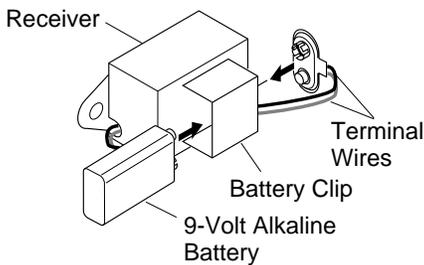

Figure 39 - Attaching Alkaline Battery to Receiver
3. Locate the battery clip mounted on the back of the receiver. Slide a 9-volt alkaline battery (not included) through the clip (see Figure 39).